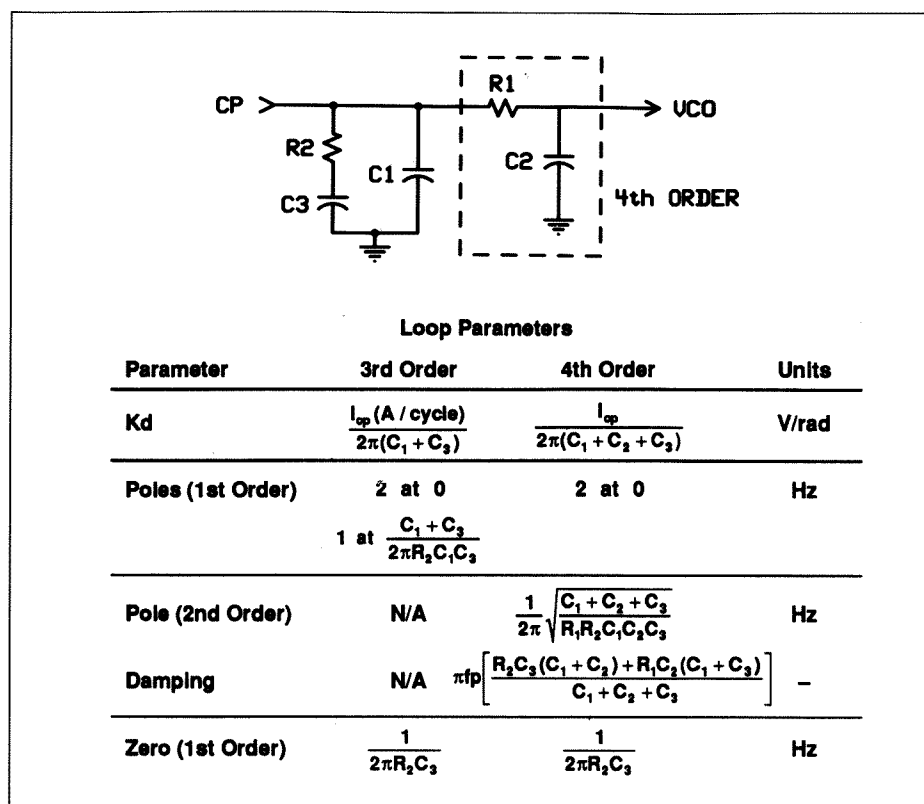

Figure 13. Basic passive loop filter design.
The above component values will yield a third order system response from a second order filter response (with one pole due to the VCO). The resulting values are only approximations, however, as they were derived by assuming the loop was a second order type. For more accurate analysis and optimization, key loop parameters and the filter response can then be entered into a software analysis program to verify loop stability and switching time, such as (4). This product is for use on MS-DOS computers and includes graphical outputs of open loop, closed loop, switching time and error responses, as well as having the ability to simulate phase noise. The formulas in Figure 13 can be used to convert component values into parameters requested by that program.
as the UMA1005/1014/1016) that have integrated charge pumps are typically specified in output current (amperes or amperes/cycle, used interchangeably). Remember to use I_{CP} in amperes for calculation of loop filter components and use the formula in Figure 13 to convert the I_{CP} value and loop filter component values to a single Volts/radian value for purposes of the PLL analysis program.
Study of the Figure 13 formulas shows that C_3 is the single most critical filter component determining the loop dynamics, as it determines not only the dominant zero frequency but also the detector gain. Be sure to perform the analysis using the standard capacitor value to be built into the circuit. As this is the largest capacitor in the circuit, attention to the type of dielectric used will help minimize switching time and leakage (see Tips from the Trenches below). As the UMA1005 has programmable charge pump currents, adjustable with 8-bit resolution, the gain is easily adjusted to optimize loop performance once a particular C_3 value is chosen.
system to a fourth order type, with the resulting frequencies and damping factor listed in Figure 13. It is important to keep the second order pole frequency much higher (typically at least a decade above) the dominant zero frequency in order to ensure adequate phase margin. Be sure to include the VCO internal capacitance (add to C_2 value) when calculating the second order pole frequency.